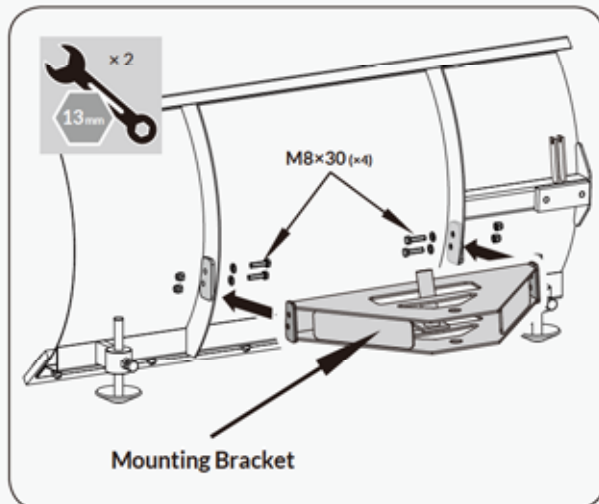

Figure 2a
1. Mount the mounting bracket to the blade using M8×30 hex bolts, washers and nuts. (See **Figure 2a**)